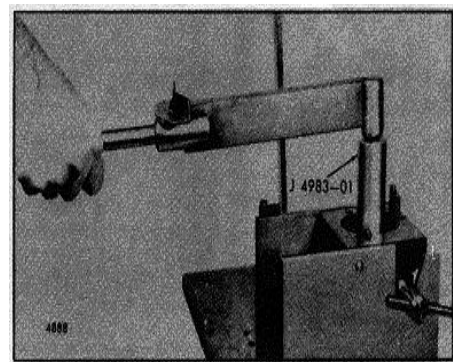

Fig. 40. Tightening Injector Nut With Torque Wrench
- Use socket J 4983-01 and a torque wrench to tighten the injector nut to 75-85 lb-ft torque (Fig. 40).